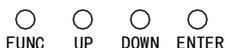

Fig.7
- Press the button FUNC so many times until the display shows [AUT] (fig.7).